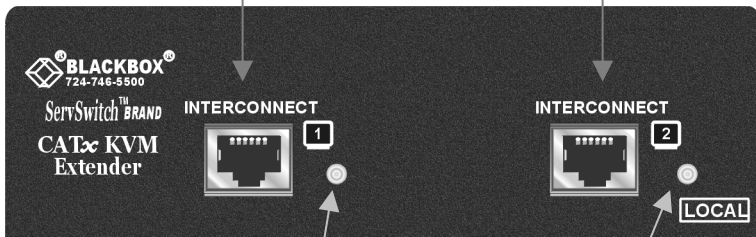

Figure 8 Local Unit (Single Video) – front view
6. For single video units, connect the CATx cable to the INTERCONNECT socket on the front of the Local unit (see Figure 8). For dual-head systems, connect the CATx cables from the Remote unit to the corresponding INTERCONNECT ports (1&2) on the Local unit (see Figure 9).